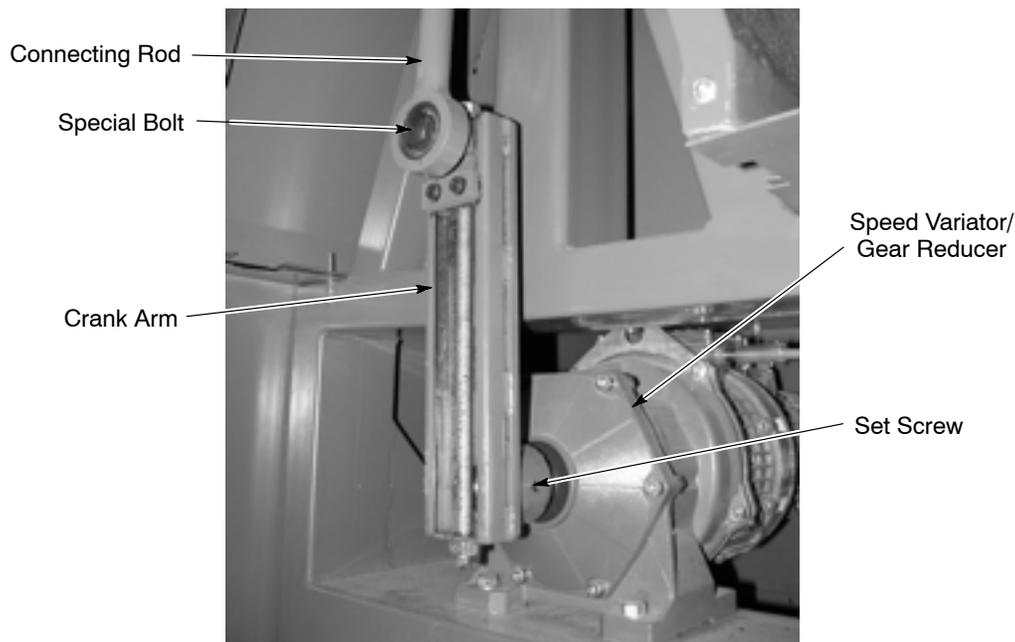

Figure 13 Speed Variator/Gear Reducer Replacement
2. See Figure 13. Remove the special bolt to disconnect the connecting rod from the crank arm.